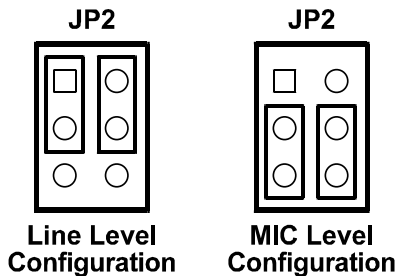

Figure 3-3. JP2 Jumper Settings
- The JP_2 jumper, shown in Figure 3-3, is a six pin header. It is used to configure input jack, J_1 , for either line level or microphone input. The center pin in each group of three is connected to one of the AD1847 codec’s input pins. Jumpers (also known as shunts or shorting links) can be used to connect these pins to either the output of the microphone amplifier or to the output of the line level input filter.
The ADSP-218x EZ-ICE Emulator aids the debugging of an ADSP-2181 system. The emulator consists of hardware, host computer resident software, and the target board connector. The ADSP-2181 integrates on-chip emulation support with a 14-pin ICE-Port interface (Figure 3-3). This interface provides a simpler target board connection that requires fewer mechanical clearance considerations than other ADSP-2100 EZ-ICEs. The ADSP-2181 device need not be removed from the target system when using the EZ-ICE, nor are any adapters needed. Due to the small footprint of the EZ-ICE connector, emulation can be supported in final board designs.